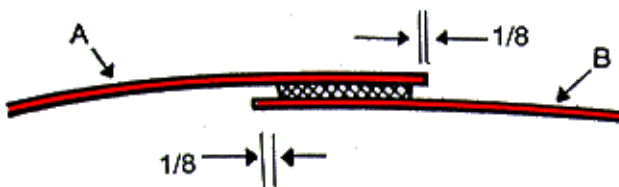

Figure 17
6. Tear off obvious excess and then neatly fold and tear off new tail "A". Figure 17.